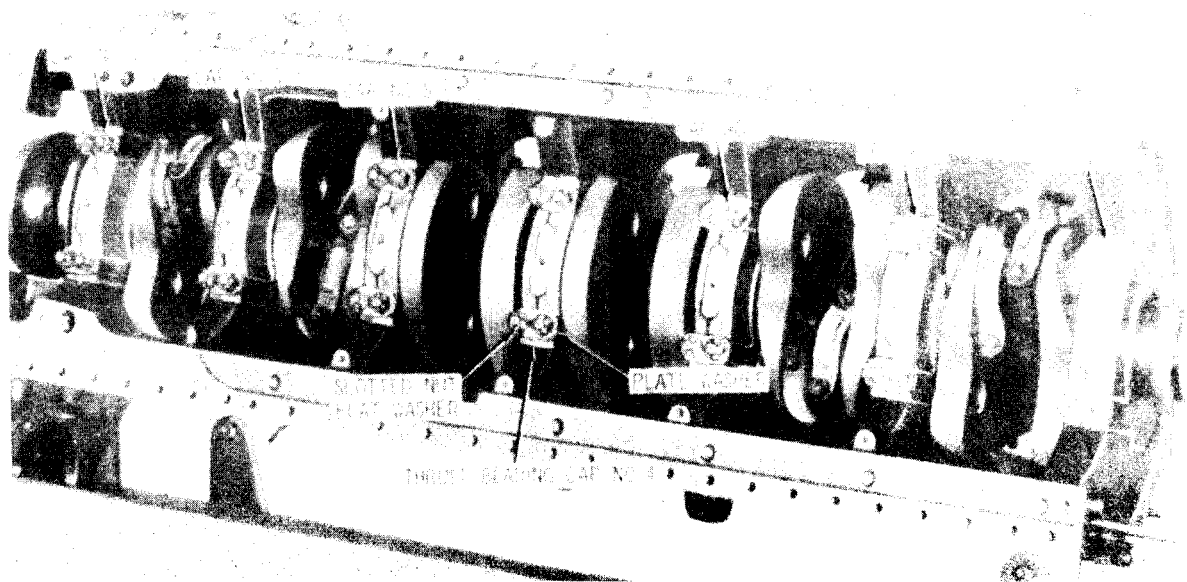

Figure 3-129. Removing or installing main bearing attaching parts
c. Cut locking wire and remove 24 slotted nuts (fig. 3-129) and 12 plate washers attaching main bearing caps, numbers 1, 2, 3, 5, 6, and 7 to crankcase assembly. Cut locking wire and remove four slotted nuts and two plate washers attaching main thrust bearing cap (No. 4 or center) to crankcase assembly.